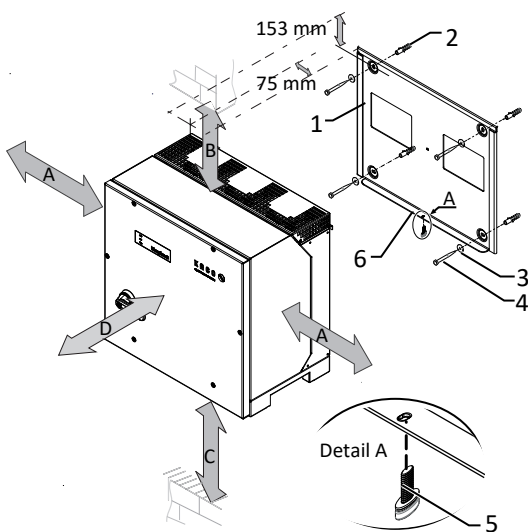

Fig. 11: Minimum clearances for wall mounting
3. Insert the screw provided into the lug of the mount and [X T30 /  2 Nm] ([See figure 11 [▶ Page 17]]).